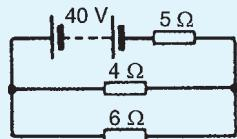

Figure 13.50
2. Use Thévenin's theorem to find the current flowing in the  $6\Omega$  resistor shown in Fig. 13.50 and the power dissipated in the  $4\Omega$  resistor.